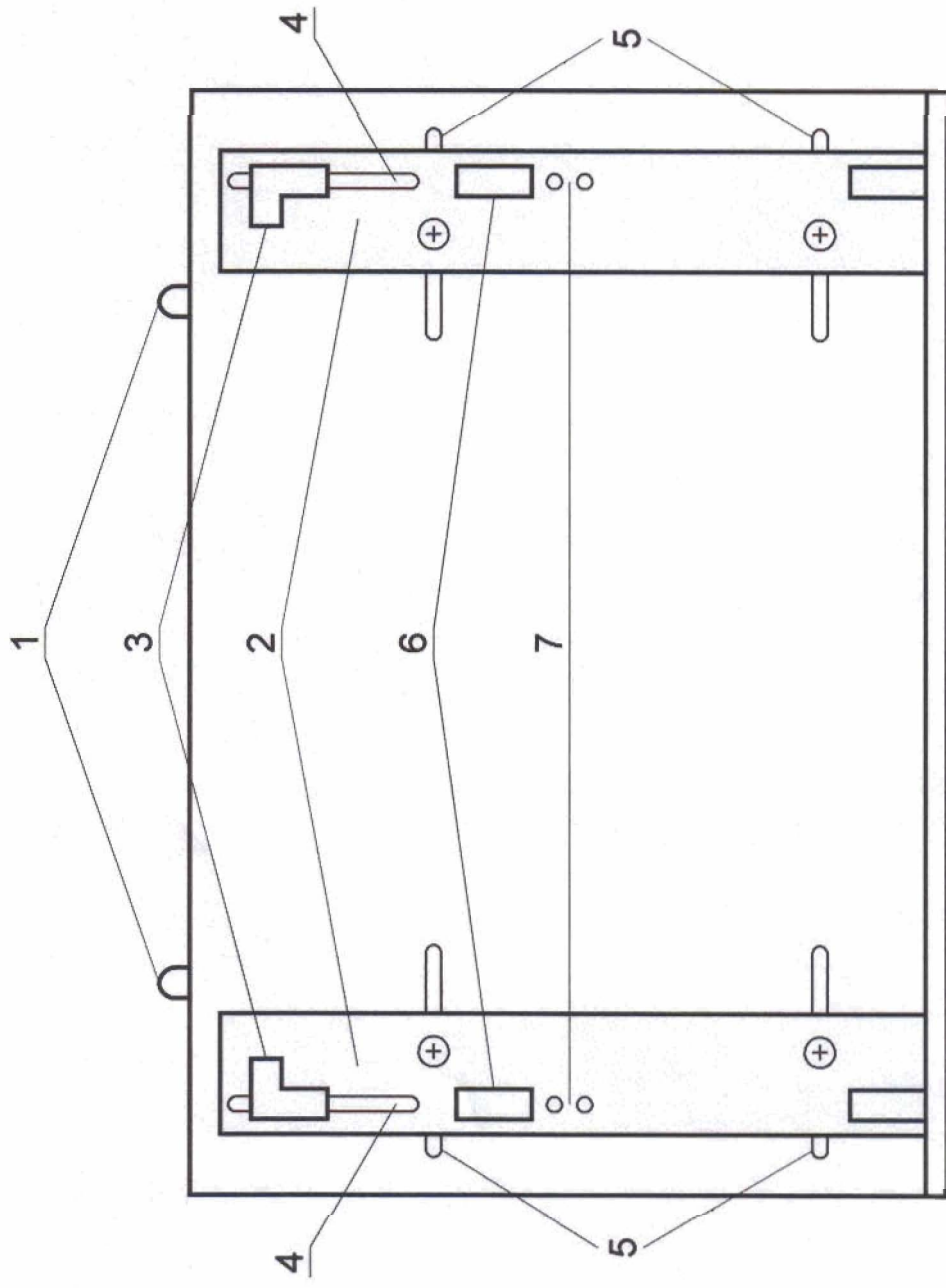

Fig. 2a. Drawing of turnable platform for Notebook type Computer.
1) Place an IBM-compatible Notebook computer to the special platform located on top of the control unit (Fig. 2a). The platform can be turned and fixed in two extreme positions.